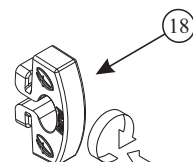

Fig 10
**Fitting the Net** - Unpack the Net (Sold separately) and identify the Crossbar edge by locating the Crossbar Label. Attach the Net Hooks to the Net approx 250mm apart, then insert the hook into the slot on the goal section and twist to lock as shown in Fig 10 (it is a good idea to fit the Net at all corners first, to make sure that it is fitted correctly).